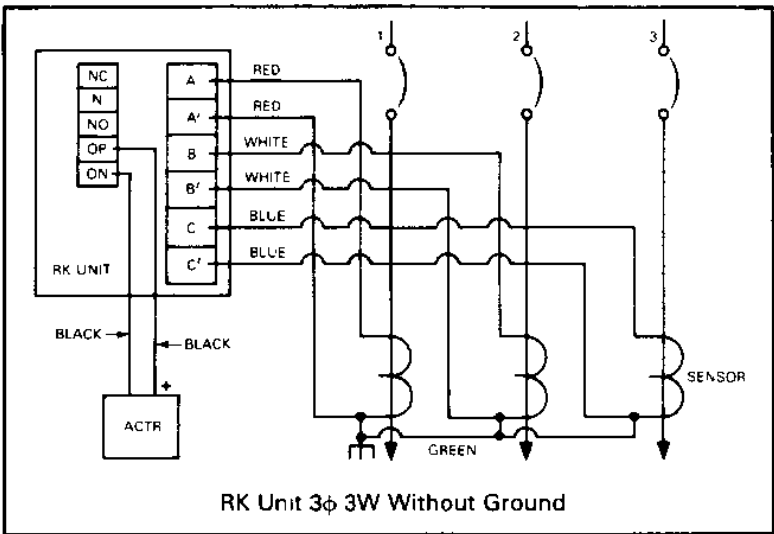

Fig. 7
- 1. Acquaint yourself with the wiring scheme, Fig. 7.